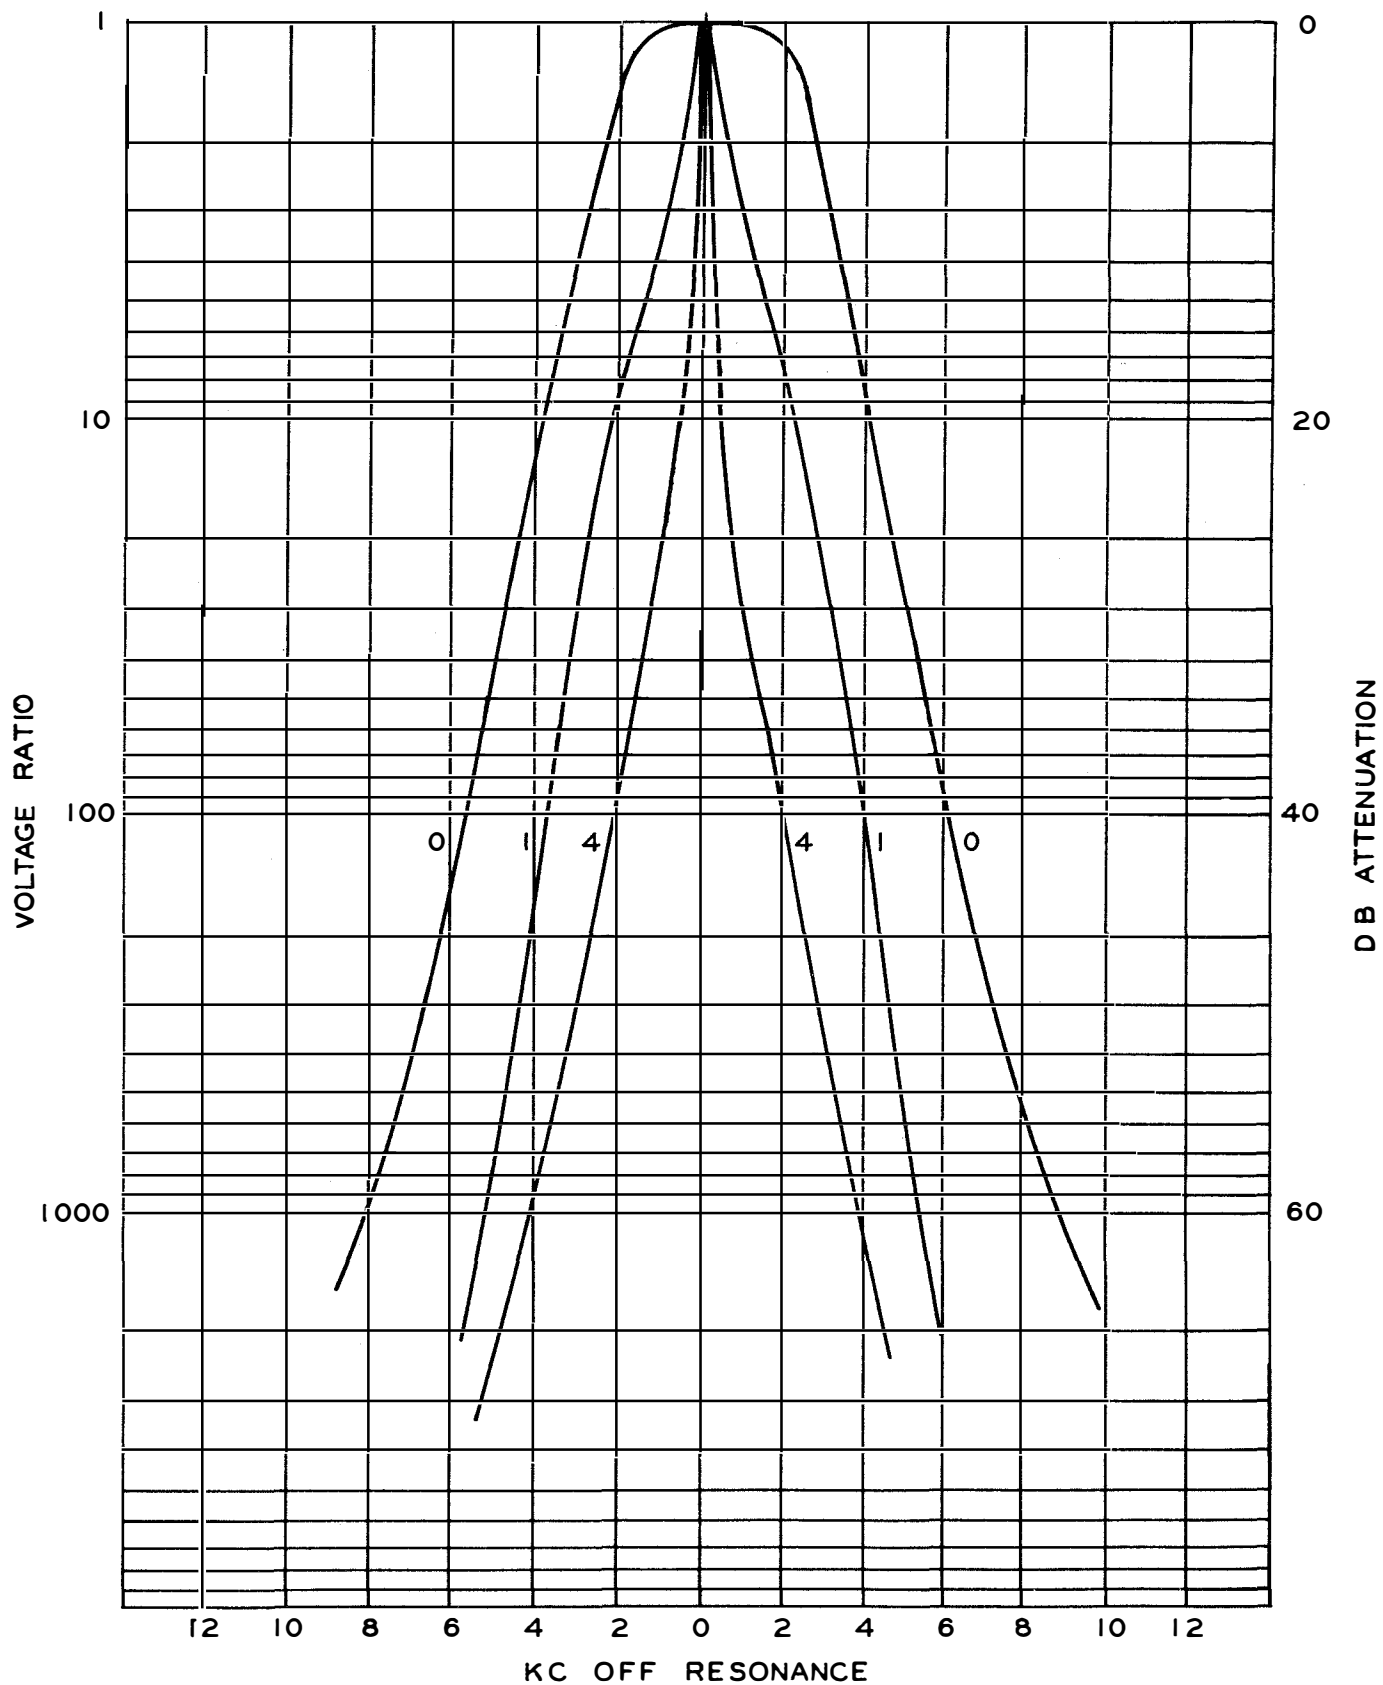

Figure 7-3. I-F Selectivity Curve
5. Typical Curves for positions 0, 1, and 4 of the SELECTIVITY control are shown in figure 7-3.